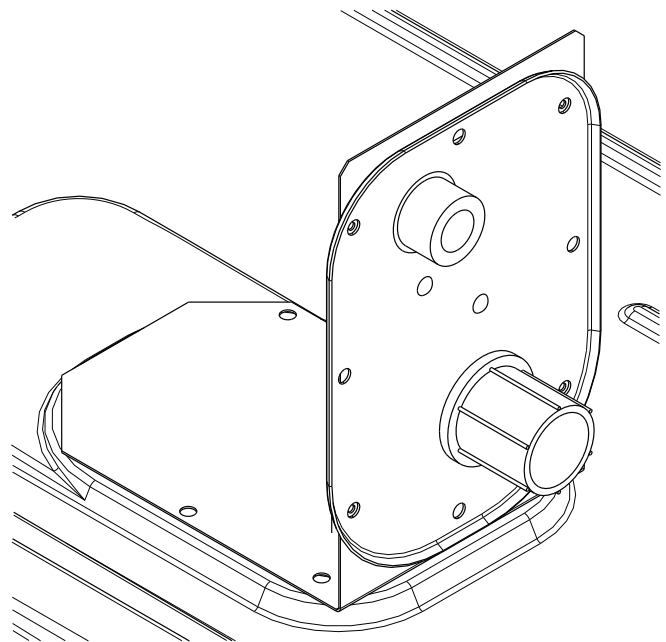
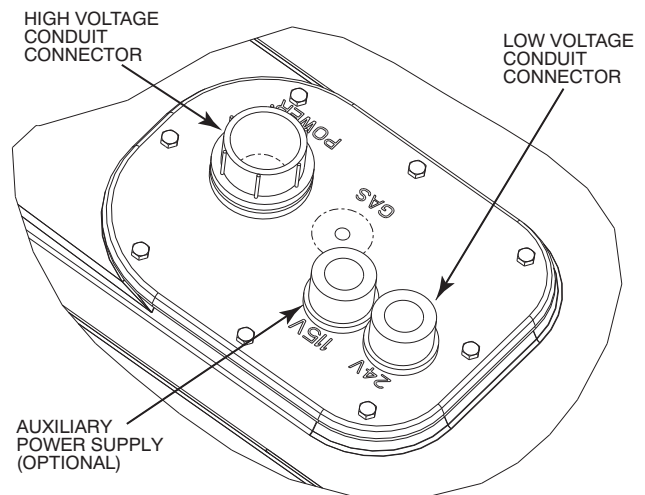

Fig. 26 — Thru-the-Base Fitting Assembly (Shown in Shipping Position)
Fig. 27 — Thru-Base Connection Fittings
This service connection kit consists of a 1/2-in. electrical bulkhead connector and a 3/4-in. electrical bulkhead connector, connected to an “L” bracket covering the embossed (raised) section of the unit basepan in the condenser section (see Fig. 26 for shipping position). The 3/4-in. bulkhead connector enables the low-voltage control wires to pass through the basepan. The 1/2-in. bulkhead connector allows the high-voltage power wires to pass through the basepan. See Fig. 27.
3. Place the gasket over the embossed area in the basepan, aligning the holes in the gasket to the holes in the basepan. See Fig. 26.